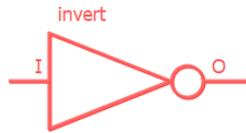

Figure 2.25. Schematic View Shows the Invert Module
- a. From the IP Catalog, select the **invert** module. Double-click the invert module, or drag and drop invert module to the Schematic view. The schematic block for the invert module in red appears in the Schematic view (Figure 2.25).